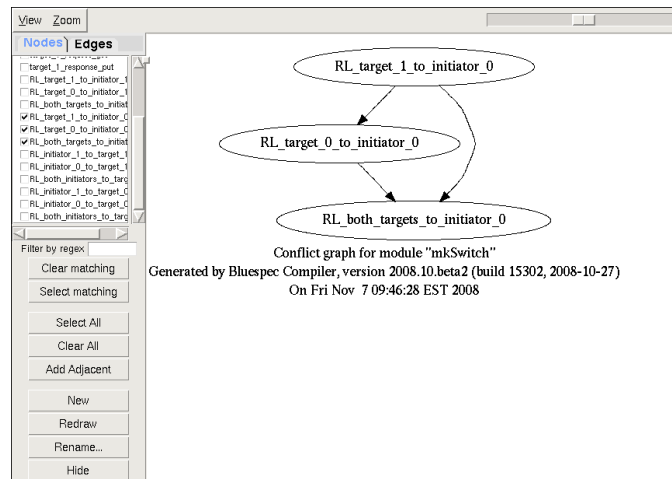

Figure 21: Conflicts Graph with filter options
- Filter the graph by selecting specific nodes and edges to display or to remove from the graph. The conflict graph in Figure 21 shows the filter options on the left side of the window.
The conflicts graph, shown in Figure 21, displays rules/methods which conflict either completely (they cannot execute in the same cycle) or in one direction (if they execute in the same cycle, it
When a group of nodes form an execution cycle, as shown in Figure 21, the compiler breaks the cycle by turning one of the edges into a complete conflict and emits a warning. This graph is generated before that happens, so it includes any cycles and can be used to debug any such warnings.